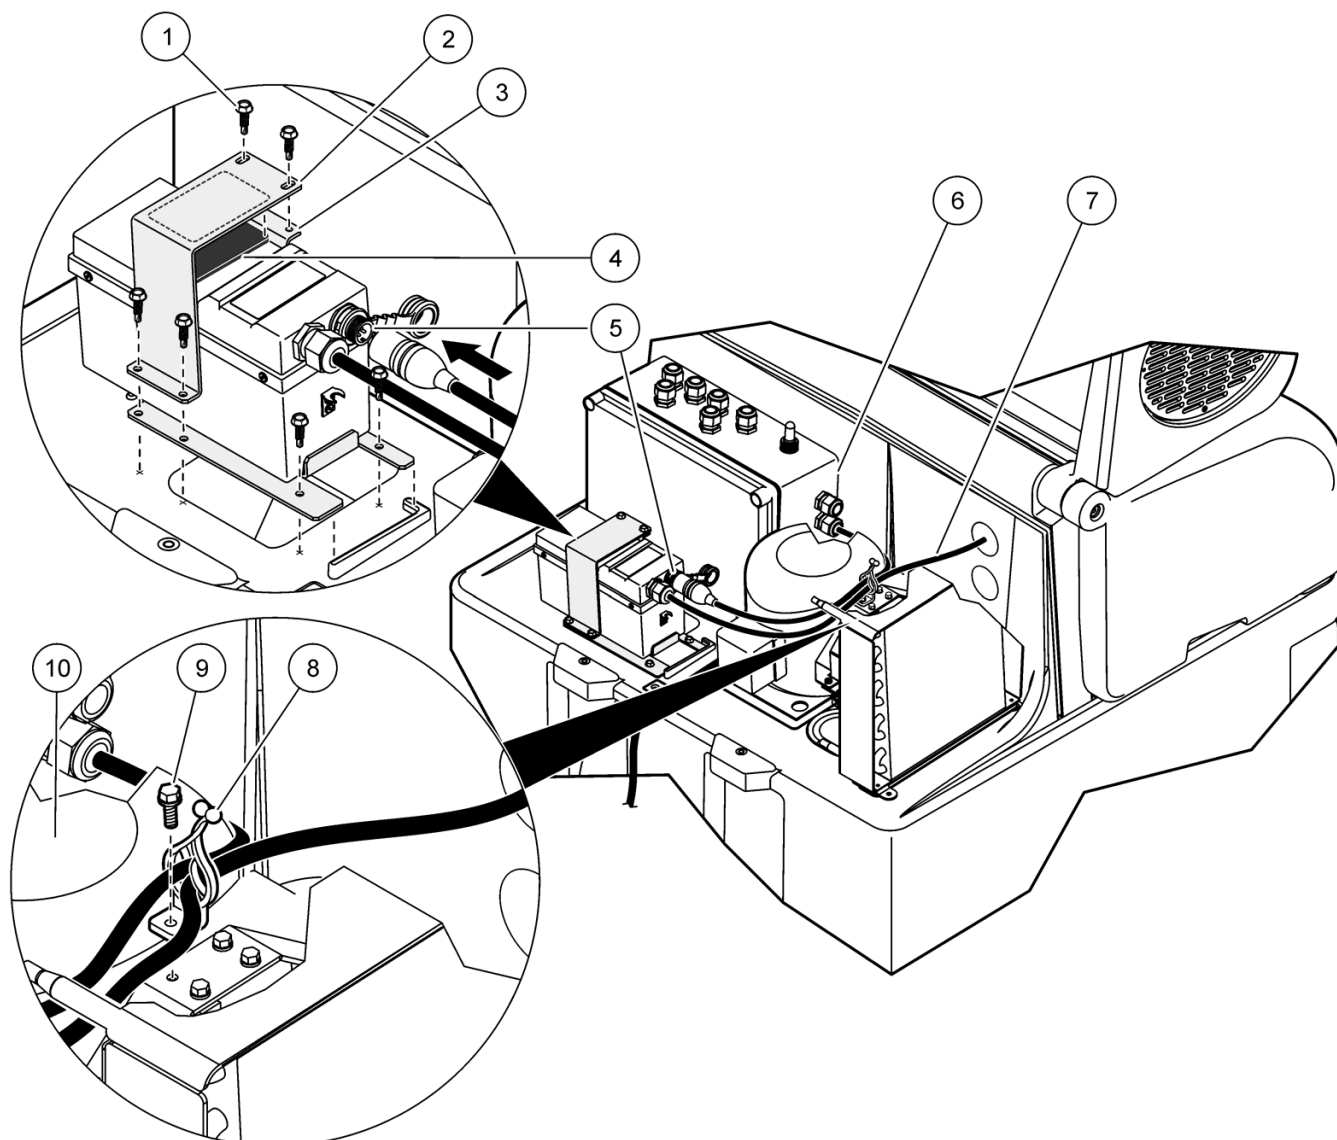

Figure 7 Battery backup installation for SD900 All Weather Refrigerated Sampler
5. Hold the base bracket against the stop flange (Figure 7 on page 8). Put 2 screws (5695400) through the bracket tabs and tighten.